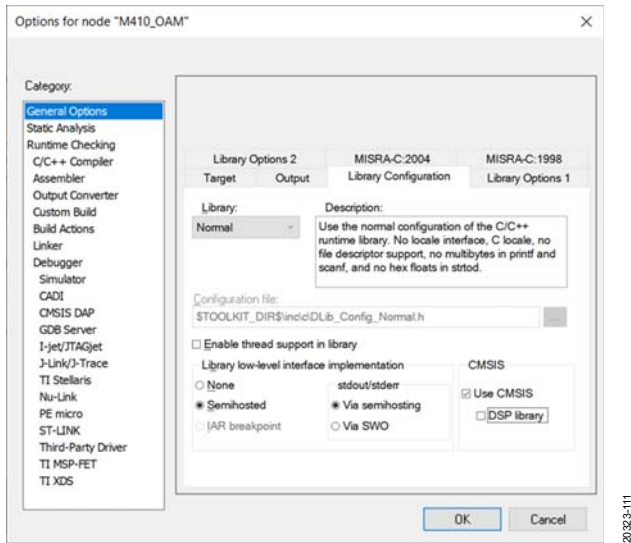

Figure 11. IAR Library Configuration
- After the ADuCM410 device is selected, click the **Library Configuration** tab. Ensure that all settings match those shown in Figure 11.